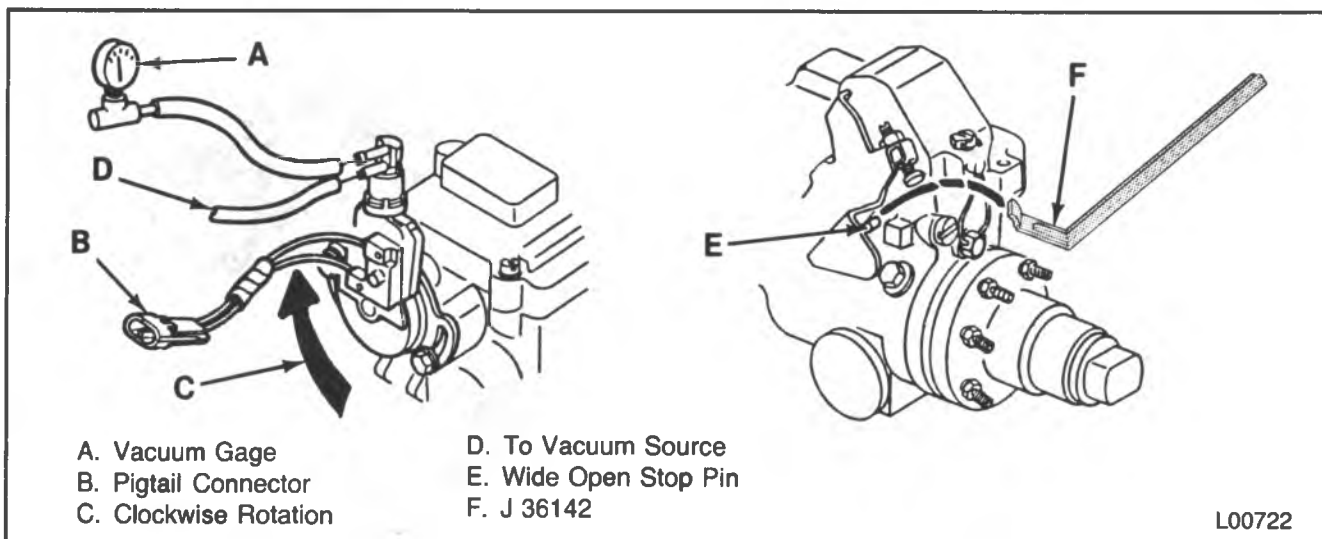

Figure 2 — VRR/Detent Switch Adjustment
3. Attach a vacuum gage to the top vacuum port (figure 2).